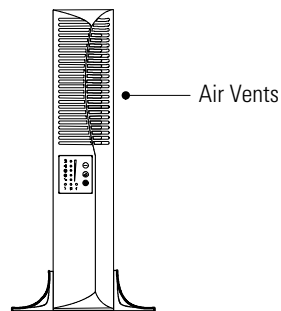

Figure 5. Pedestals with One Cabinet
4. Carefully position the cabinet upright with the air vents at the top (see Figure 5).